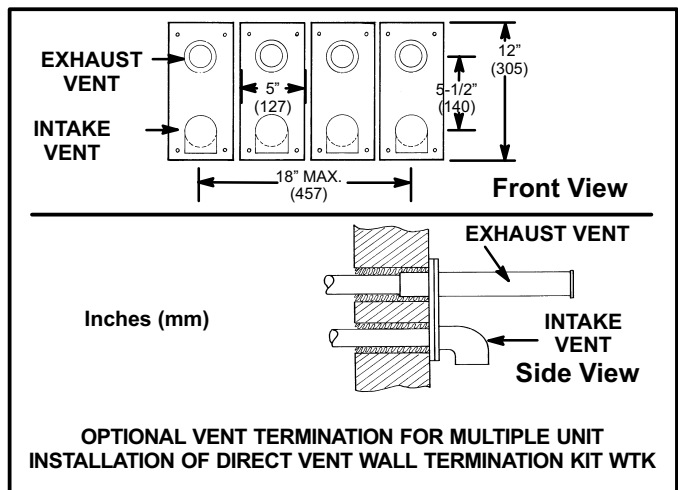

FIGURE 33
9. Based on the recommendation of the manufacturer, a multiple furnace installation may use a group of up to four termination kits WTK assembled together horizontally, as shown in figure 33.